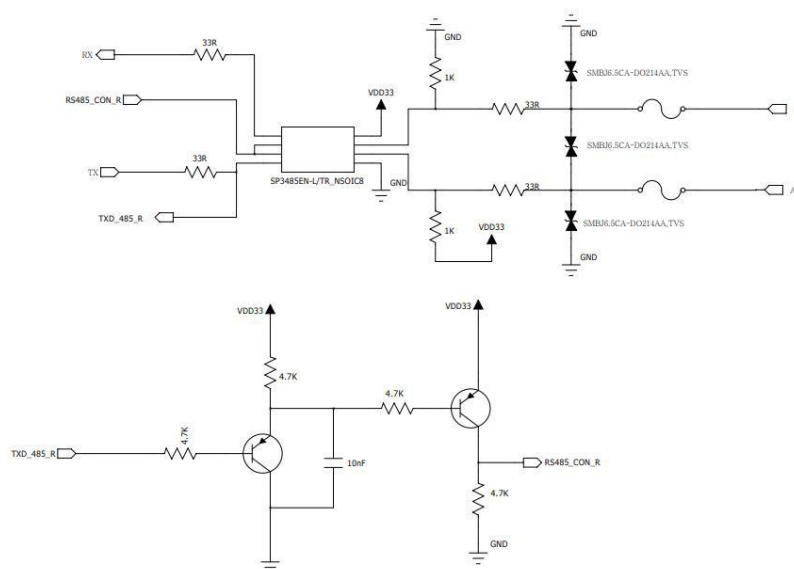

Fig. 6-3 F8L10C-00 RS485 Connection Reference Circuit
2. The industrial control computer is used as the upper computer: F8L10C-00 is connected to the industrial control computer through RS485 bus, and RS485 chip conversion (SP3485) is required, as shown in Figure 6-3.